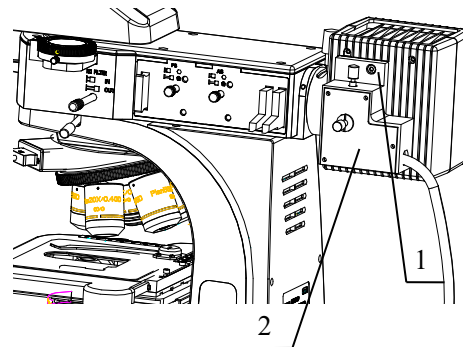

Fig.11
1. Using S3 Allen wrench, fully loosening the fixing screw on the cover of the lamp housing(1 in Fig11).
2. Pull the lamp socket component(2 in Fig11) out and remove it.